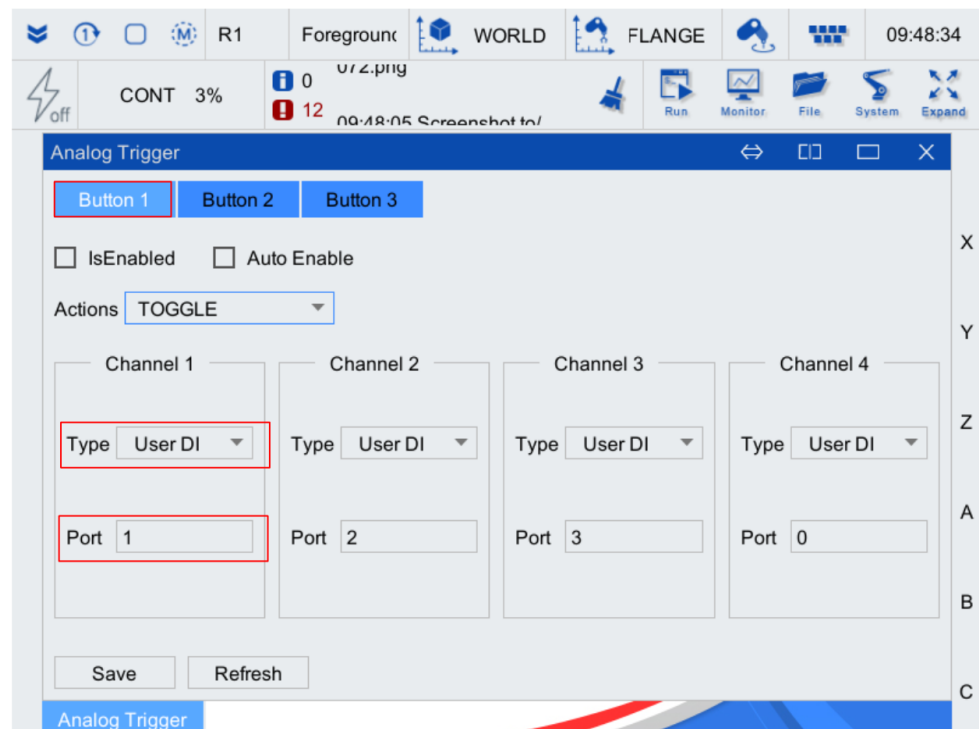

Figure 6-10 Simulation trigger configuration interface
- Step2. In the pop-up [Analog Trigger] interface (as shown in Figure 6-10), select the button to be configured (such as button 1), select the type of DI for each channel as "User DI", and configure the [Port] to correspond one by one with the key port numbers configured in steps 3 to 5 of section 6.1.